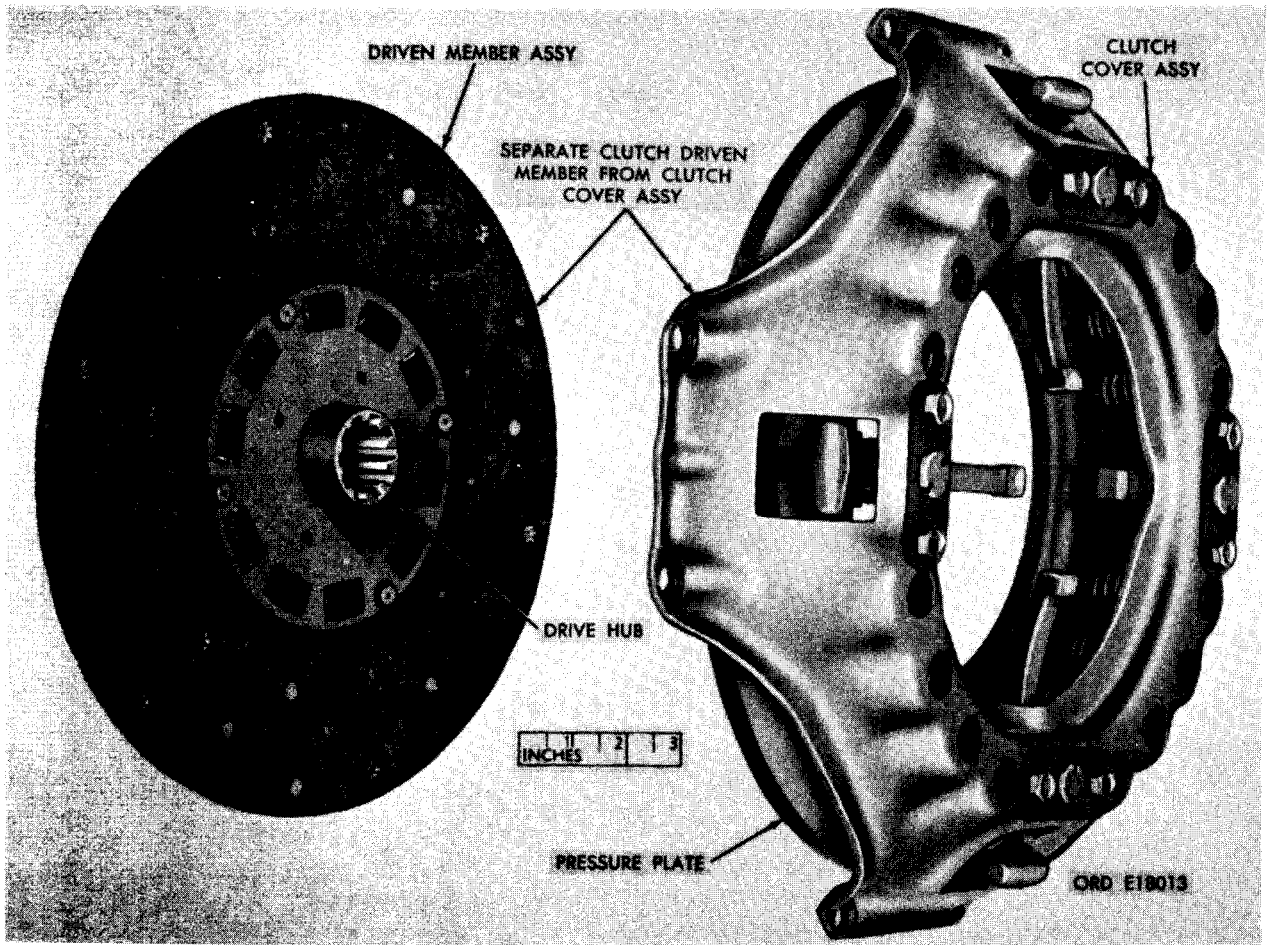

FIGURE 90. CLUTCH ASSEMBLY - PARTIAL EXPLODED VIEW.
Note. The clutch cover assembly should not be disassembled, repaired, or rebuilt at the field maintenance level. When inspection indicates pressure plate (fig. 90) is cracked, damaged, or scored, the clutch cover assembly must be replaced.
- (2) Remove clutch driven member assembly from clutch cover assembly as shown in figure 90.